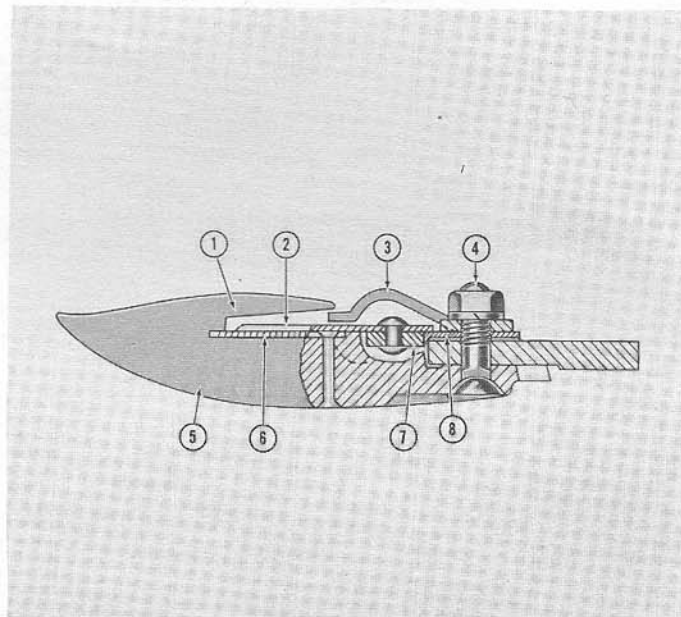

Figure 3
Knife Guards: Align the guards (5), Figure 3; by striking the forward end up or down with a hammer until the ledger plates (6) are flush with the knife sections (2). The knife guard lip (1) should be above the knife clips (3) and kept straight as shown.
Knife Clips: The knife clips (3), Figure 3, should hold the knife sections down on the ledger plate (6), without binding the knife sections. To reduce knife clip clearance, strike the forward end of the knife clip with a hammer. If the clip is bearing too hard on the knife, strike the flat surface of the clip between the two bolts (4), Figure 3, to increase the clearance. Remove the knife before striking the clips.
Wear Plates: The wear plates (8), Figure 3, located under each knife clip (3), must fit snugly against the knife back (7) as shown, and yet have sufficient clearance to avoid binding. To adjust the wear plates, loosen the nuts on the two bolts (4). Tap the wear plates forward against the knife back and tighten the nuts securely.